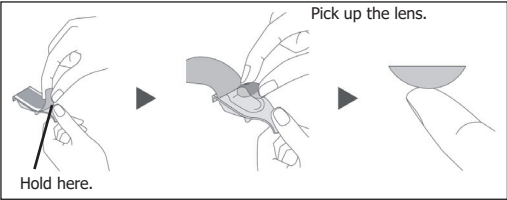

Fig.2
- Remove the container foil to open the package. (See Fig.2.)
- Carefully pick up the lens from the container and examine it to be sure that it is free of any damage or foreign bodies. (See Fig.2.)